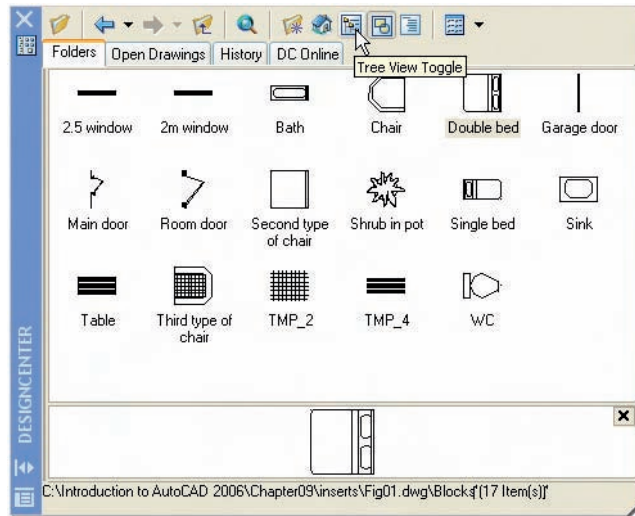

Fig. 9.12 The results of clicks on Tree View Toggle and Preview
- (b) **Preview** – a *click* on the icon opens a small area at the base of the palette showing an enlarged view of the selected block icon (Fig. 9.12).